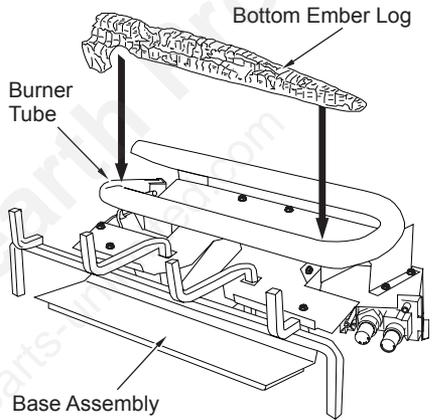

Figure 56 - Installing Bottom Ember Log
1. Place bottom ember log on base assembly as shown in Figure 56. The log should fit over the left side of the burner and rest in the middle of the U-burner.